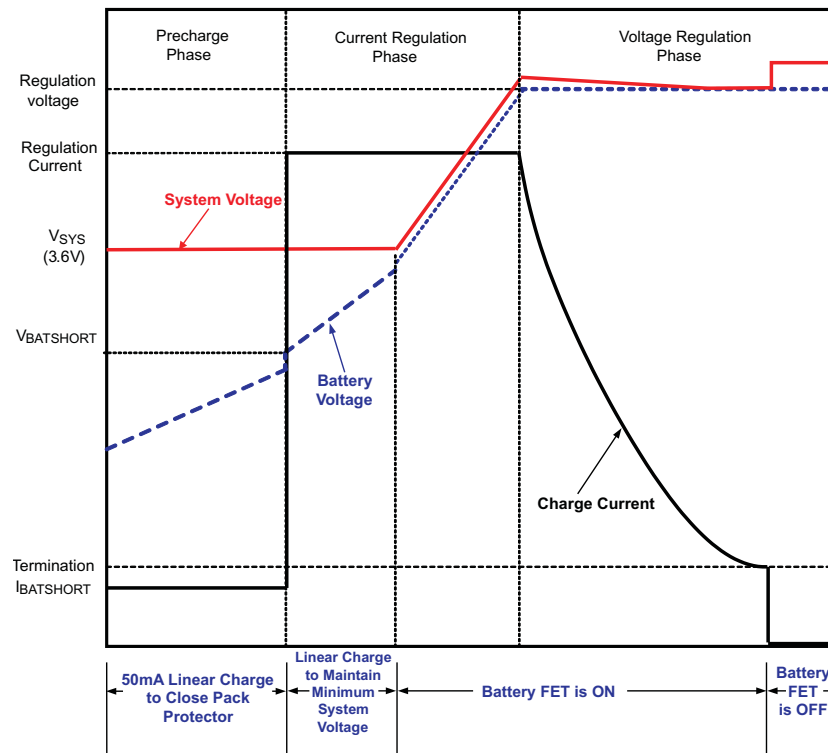

Figure 20. Typical Charging Profile of bq24165/6/7
Charging is done through the internal battery MOSFET. When the battery voltage is above 3.5V, the system output (SYS) is connected to the battery to maximize the charging efficiency. There are 5 loops that influence the charge current; constant current loop (CC), constant voltage loop (CV), thermal regulation loop, minimum system voltage loop (MINSYS) and input voltage dynamic power management loop (V_{IN-DPM}). During the charging process, all five loops are enabled and the dominate one takes control. The bq24165/6/7 supports a precision Li-Ion or Li-Polymer charging system for single-cell applications. The minimum system output voltage feature regulates the system voltage to a minimum of $V_{SYS(REG)}$, so that startup is enabled even for a missing or deeply discharged battery. Figure 20 shows a typical charge profile including the minimum system output voltage feature.